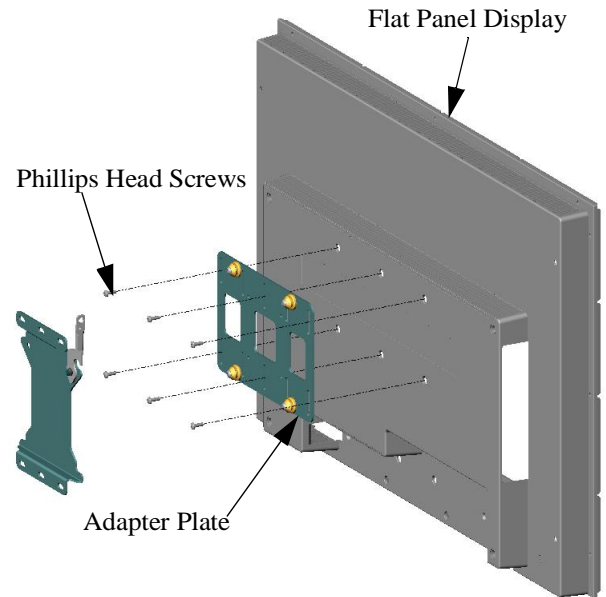

Figure 1. Secure Adapter Plate
- Using M4 X 12mm Phillips head screws (60), secure the adapter plate (20) to the flat panel display (see Figure 1).